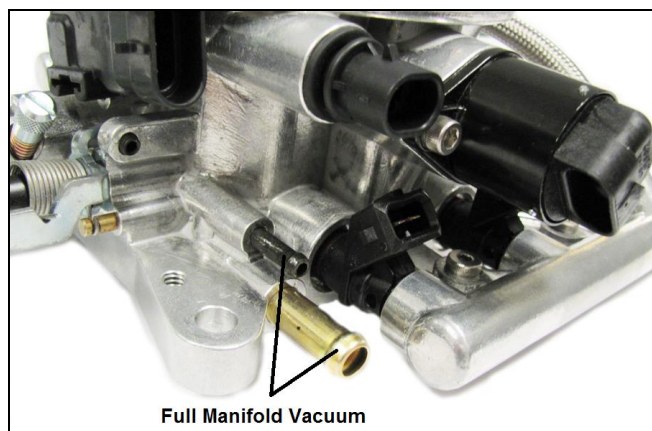

Figure 2
1. Connect the vacuum lines that were disconnected in section 6.0. **Figures 2 & 3** show the function of the ports in the TERMINATOR™ throttle body.